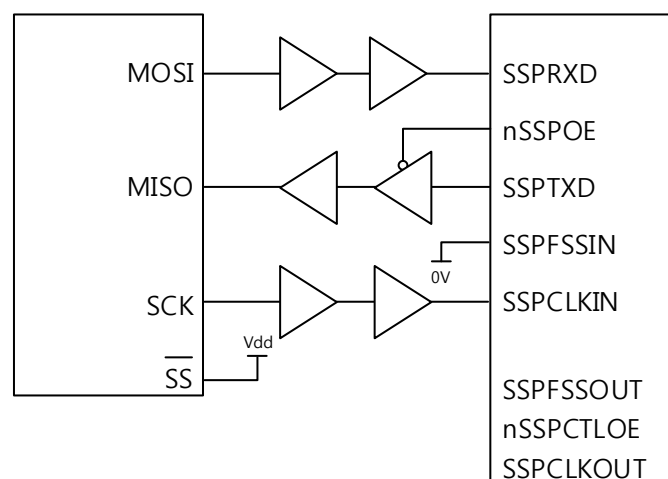

Figure 69. SPI master coupled to a PrimeCell SSP slave
Figure 69 shows a Motorola SPI configured as a master and interfaced to an instance of a PrimeCell SSP (PL022) configured as a slave. In this case, the slave Select Signal (SS) is permanently tied HIGH to configure it as a master. The master can broadcast to the slave through the master SPI MOSI line. In response, the slave drives its nSSPOE signal LOW. This enables its SSPTXD data onto the MISO line of the master.